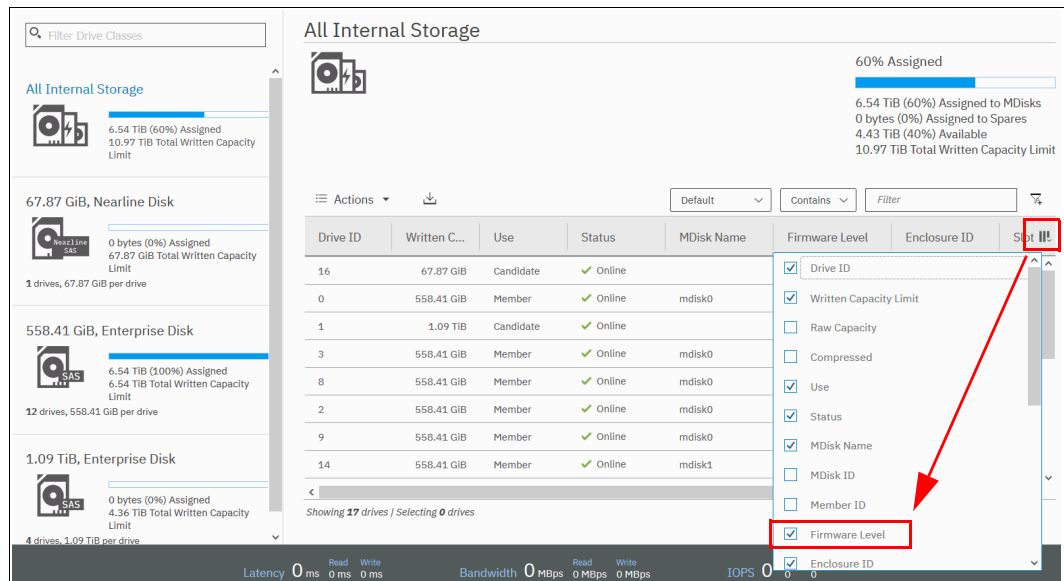

Figure 13-32 Viewing drive firmware levels
- You can view each drive's firmware level in the Pools Internal Storage All Internal window by enabling the drive firmware option after right-clicking in the column header line, as shown in Figure 13-32.